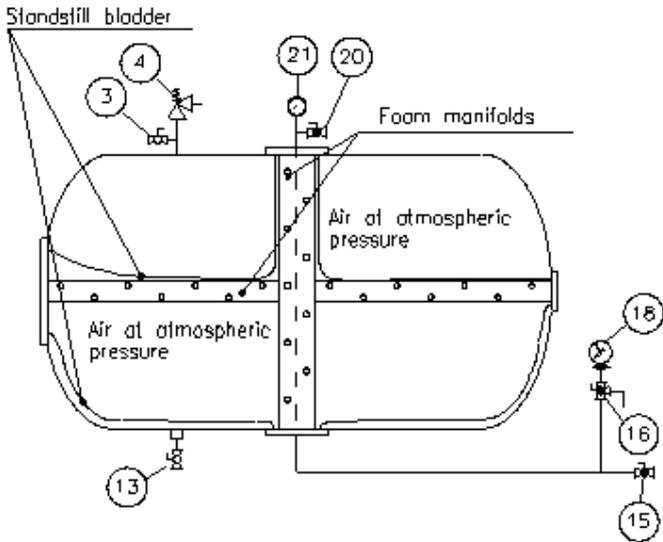

Figure a.2
3. Closed the valves (2) and (8), open the valves (13) and (3) to drain the water (if there is) in the bladder tank. After this operation, the condition of the tank and the arrangement of the bladder are shown in figure a.2.